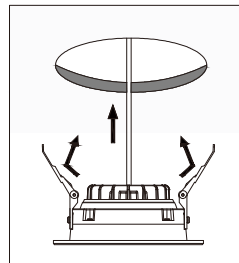
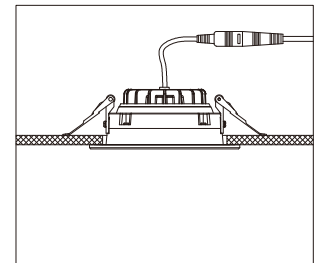

FIG. 5
FIG. 6
9. Bend back the two torsion springs and fit the fixture in the hole (or square) in ceiling (Fig. 5). Slowly release unit up to the ceiling and the springs will hold fixture in place (Fig. 6).